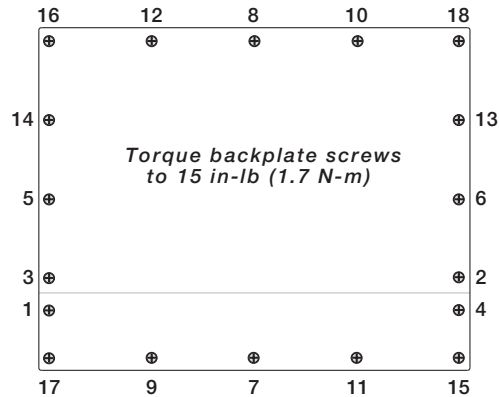

Figure 14. 920i Cover Installation
3. Torque screws to 15 in-lb (1.7 N-m), using pattern shown in Figure 14, to prevent distorting the backplate gasket.